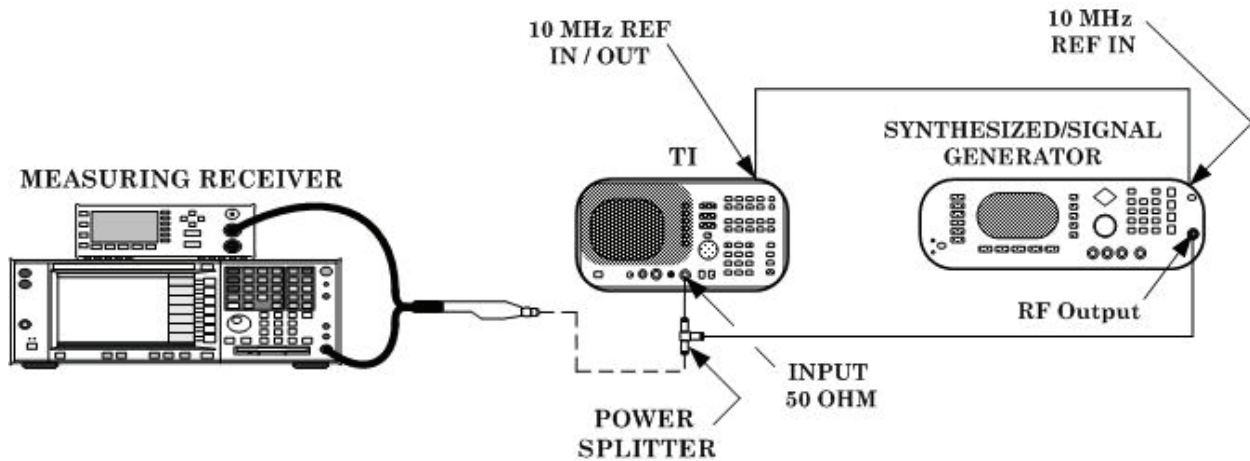

Figure 5. Frequency response - equipment setup.
- (1) Connect equipment as shown in figure 5.